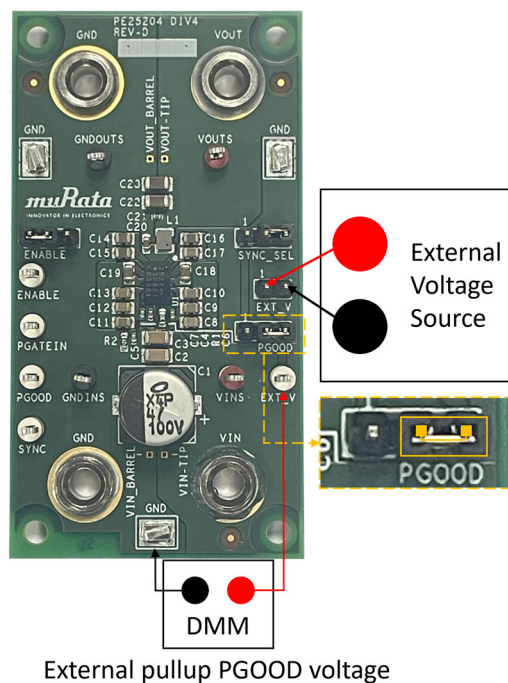

Figure 5. EVK Equipment Connections for External Pull-up PGOOD Voltage Supply and Measurement
An external voltage can be supplied to the EVK to pull up the PE25204 PGOOD pin rather than the internal VDD through the EXT_V supply header. To supply and measure the external pull-up of the PGOOD voltage, connect the EVK to the equipment as shown in Figure 5 and configure the PGOOD selector with the jumper as shown.
2. Optional: If you prefer, supply and measure an external voltage between 3.3V and 5V to pullup the PGOOD pin of PE25204 instead of using the internal VDD of the IC by connecting the EVK as shown in Figure 5 and reconfiguring the PGOOD selector as shown in Figure 5.